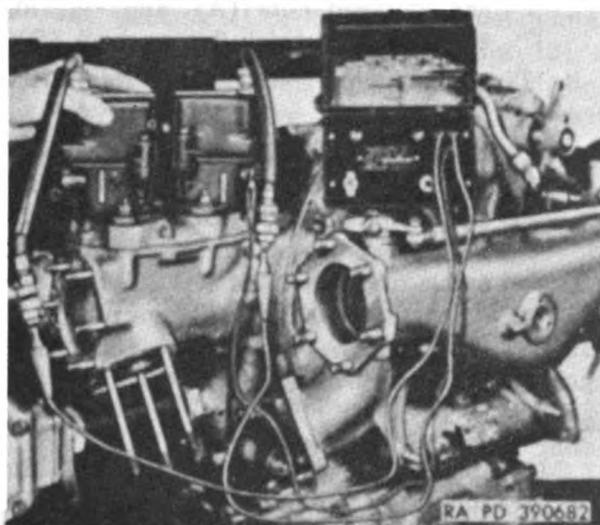

Figure 182. Synchronizing magnetos.
- (7) Insert a  $\frac{1}{8}$  x 1 cotter pin in end of each ground cable and clip two positive (red) leads of magneto timing light to cotter pins as shown in figure 182.